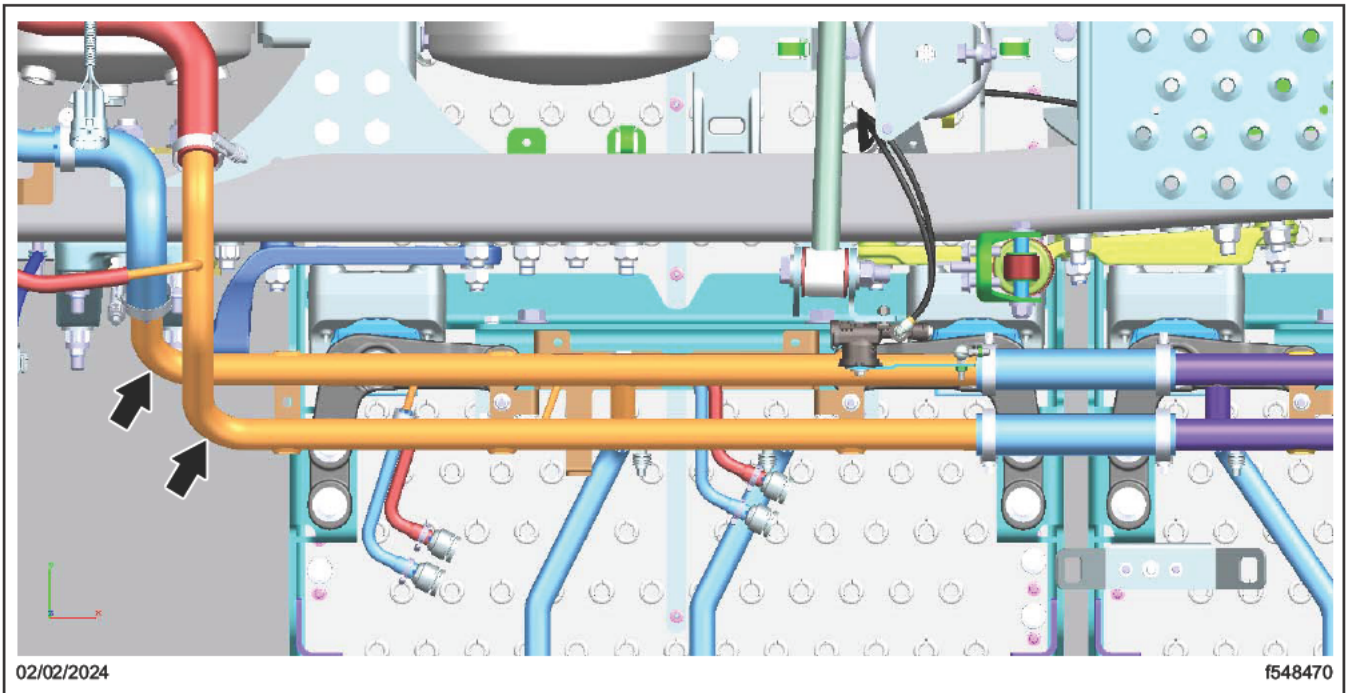

Fig. 5, Hardline over the High Voltage Battery B1
19. Remove the hardline from over the high voltage battery B1. See Fig. 5.